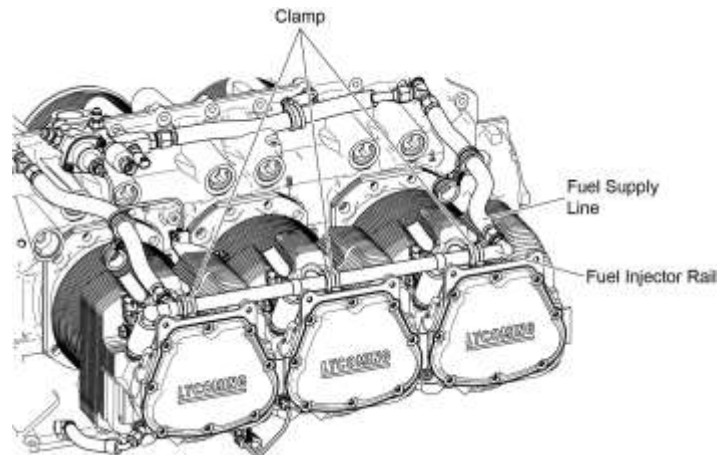

Figure 8
- (7) Remove the bolt, washer, and lock washer from each clamp on the fuel injector rail assembly (Figure 8). Discard the lock washers. Keep the hardware fasteners and clamps.